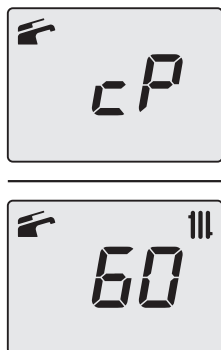

Figure 9.25
- Press button 14 (Figure 9.20) to vary the output in chimney sweep mode: when the LCD displays the letters **cP** that alternate with the temperature of the heating water (e.g. **60**), the "chimney sweep function" is at maximum output in heating mode (Figure 9.25).